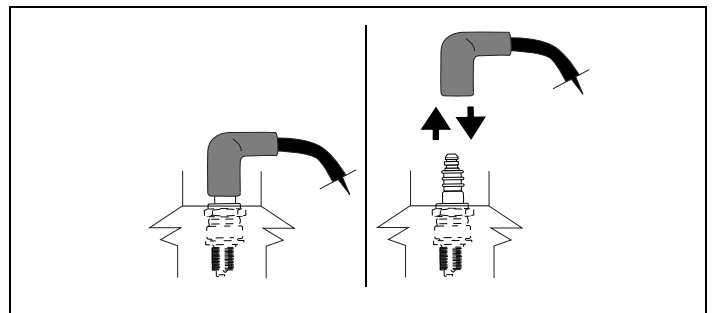

Figure 2. Disconnecting/Connecting Spark Plug
- Carefully disconnect spark plug wire and keep it away from spark plug. See Figure 2.